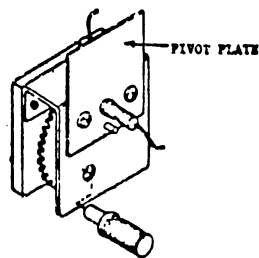

FIGURE 5-16 FIRST CHARACTER POSITION ADJUSTMENT
- 1) Place adjustment lug through pivot plate hole (Figure 5-16) and into timing disk hole. Check for a distance of $1.18" \pm .01"$ ($3 \text{ cm} \pm .025 \text{ cm}$) between carriage assembly and left side frame.
- 2) Move carriage $1.18'' \pm .01''$ ($3 \text{ cm} \pm .025 \text{ cm}$) from left side frame (Figure 5-16, 17) and tighten timing disk set screw.